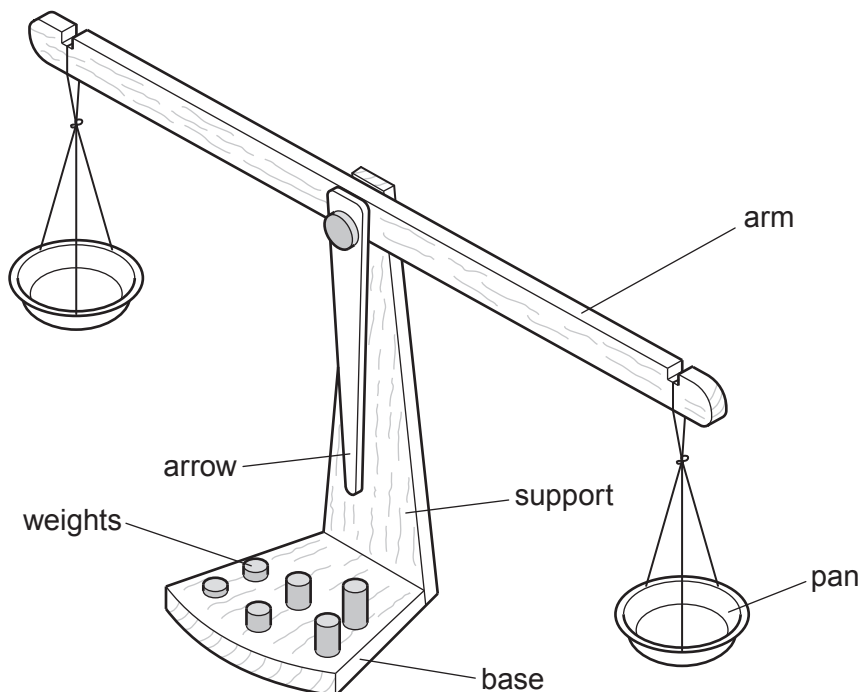

Fig. 11.1
- 11** Fig. 11.1 shows a balance that will be used by young children. The balance will be made in a school workshop.